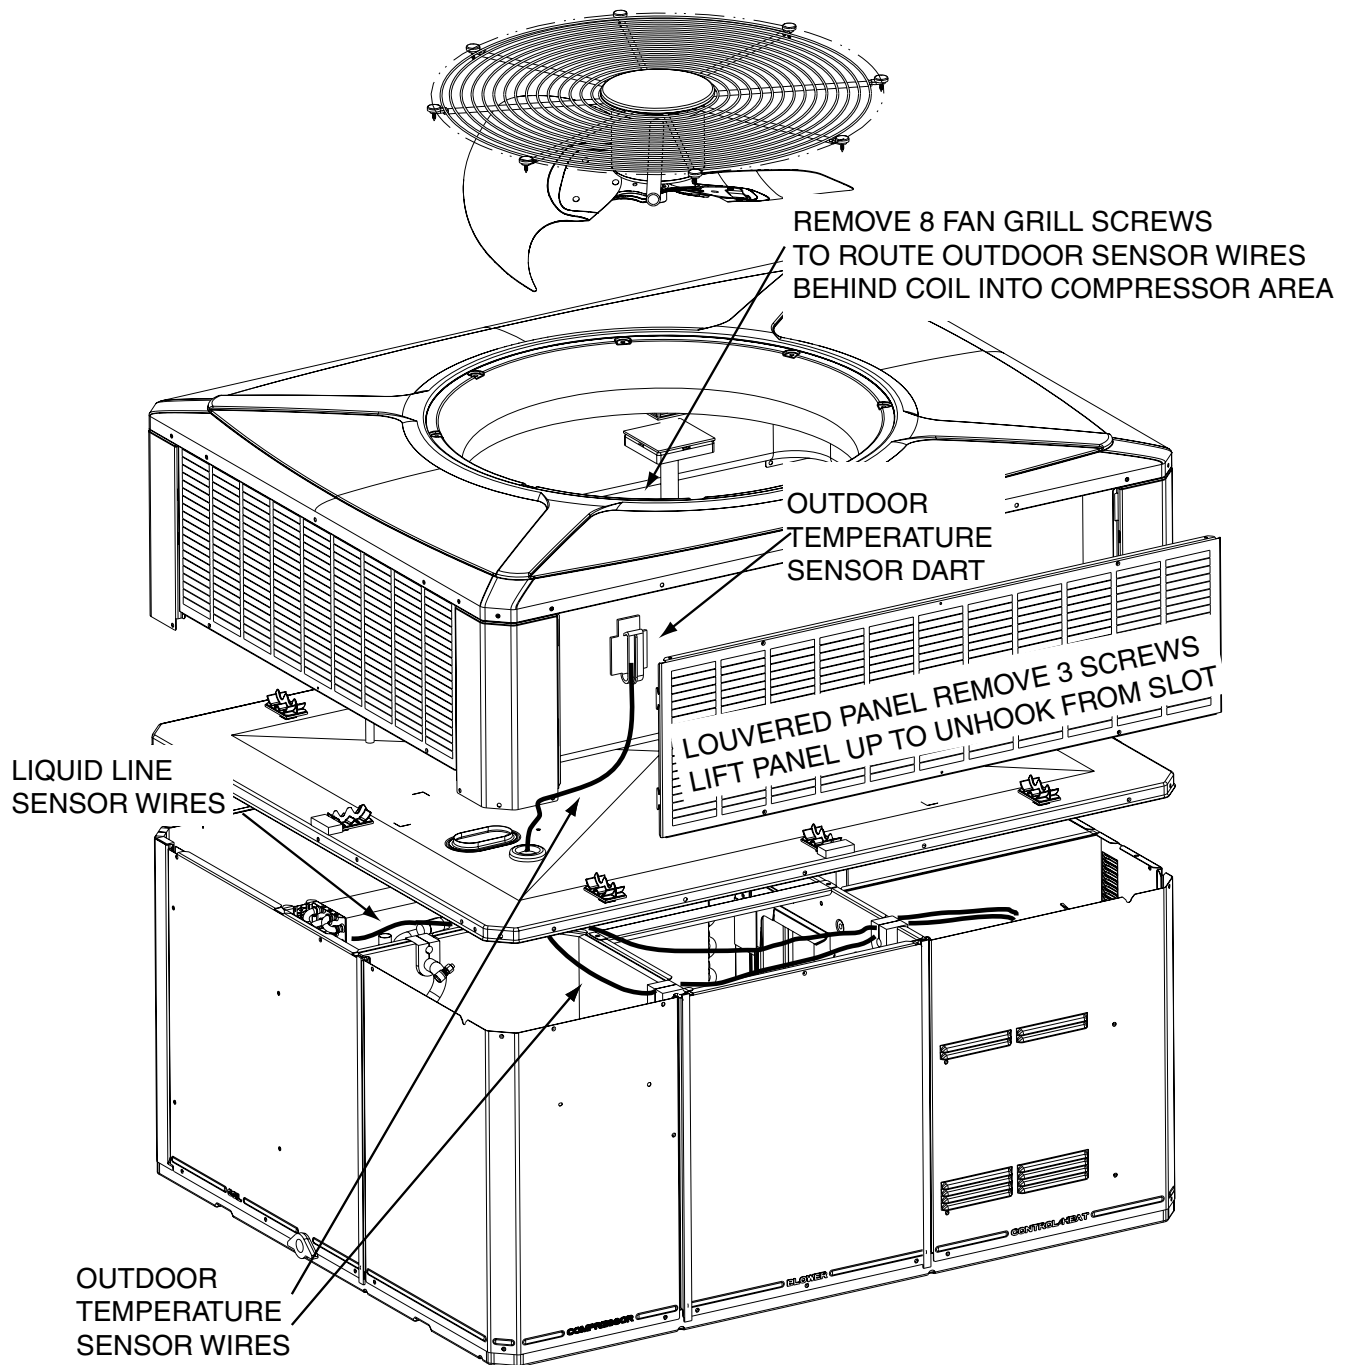

Figure 9. Mount Outdoor Temperature Sensor
2. Route the sensor wires through the compressor area, past the blower and into the Control Box. See Figure 9, page 8.
In this step you attach the outdoor sensor to the outside of the outdoor coil. See Figure 9, page 8.
- a.) Remove the three (3) screws across the top of the panel.
3. Insert the retainer into the outside surface of the spine-fin coil about half way up the outside surface of the coil. Attach the outdoor air sensor to the clip on the outdoor air sensor retainer dart. See Figure 8 below and Figure 9, page 8.
1. Route the outdoor temperature sensor lead wires down to the intermediate top and then under the outdoor coil. See Figure 9, page 8. You may need to lift the coil slightly to slide the sensor lead wires under the coil.
2. Route the outdoor temperature sensor leads down into the compressor compartment through the one (1") hole. See Figure 9. Using a wire tie from the kit, tie the leads to the existing wiring at the point where the leads go through the sheet metal opening. **Ensure that the leads DO NOT lie across the sharp sheet metal edges of the openings.**
5. Reinstall the outdoor fan assembly with the eight (8) screws and screw caps you removed in the *Mount the Liquid Line Temperature Sensor* section.